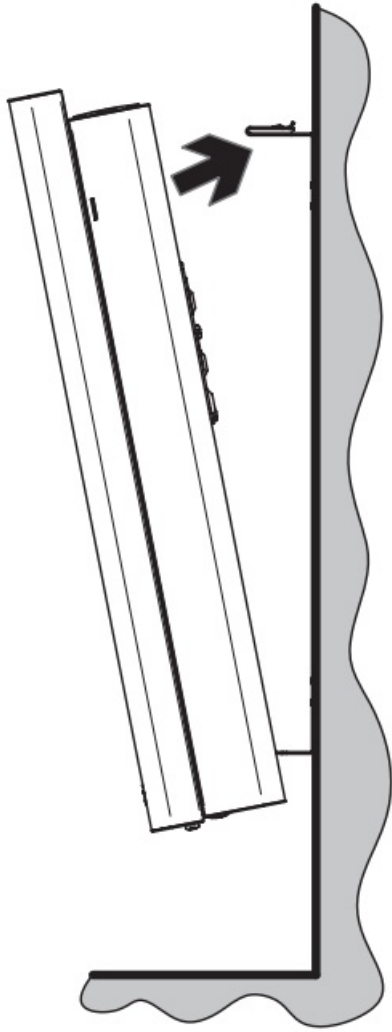

FIG. 4
2. Tilt the top of the unit and snap it. **(FIG. 4)**